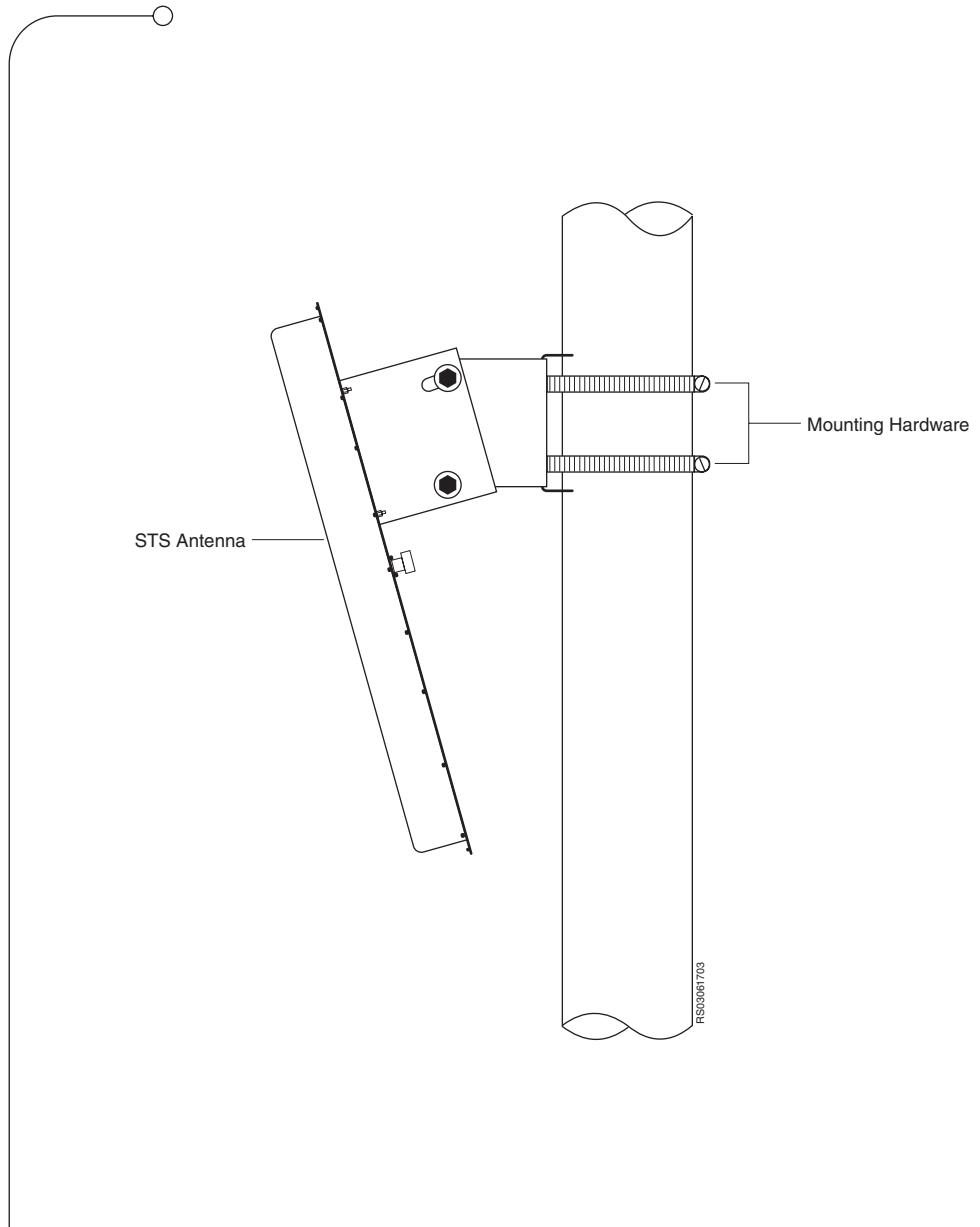

Figure 3.2 Mounting the STS Antenna
- ▶ Secure the antenna to the pole using the mounting hardware provided, as shown in Figure 3.2 on page 25.